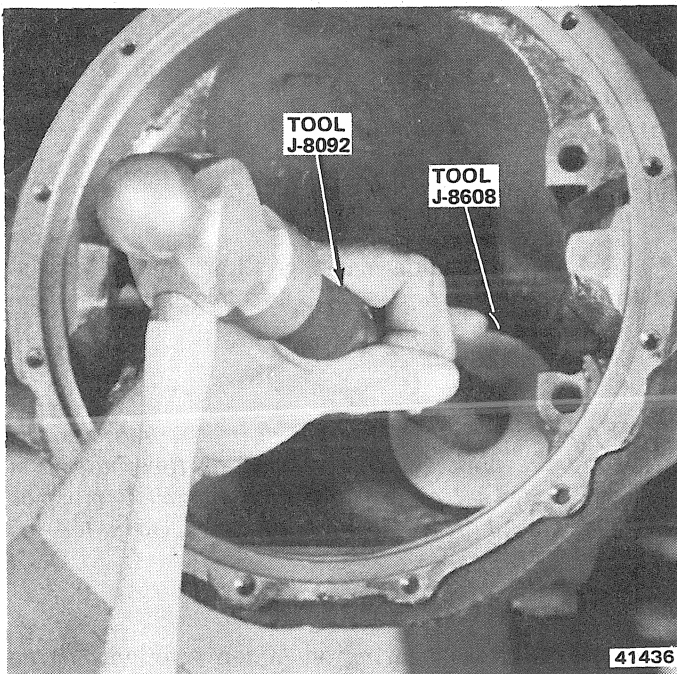

Fig. 2F-37 Pinion Rear Bearing Cup Installation
(7) Install rear bearing cup using Tools J-8092 and J-8608 (fig. 2F-37).
(11) Note pinion depth variance marked on pinion gear. If number is preceded by a plus (+) sign, add that amount (in thousands) to standard setting for axle model being overhauled. If number is preceded by a minus (-) sign, subtract that amount (in thousandths) from standard setting. Result of this addition or subtraction is **desired pinion depth**. Record this figure for future reference.
(12) Assemble Arbor Tool J-5223-4 and Discs J-5223-23 and install assembled tools in differential bearing cup bores (fig. 2F-38). Be sure discs are completely seated in bearing cup bores.
(13) Install bearing caps over discs and install bearing cap bolts (fig. 2F-38). Tighten bearing cap bolts securely, but not to specified torque.
(14) Position Gauge Block J-5223-20 on end face of pinion gear with anvil end of gauge block seated on gear and gauge plunger underneath Arbor Tool J-5223-4 (fig. 2F-38).
(15) Assemble and mount Clamp J-5223-14 and Bolt J-5223-24 on axle housing (fig. 2F-38). Use axle housing cover bolt to attach clamp to housing.
(16) Extend clamp bolt until it presses against gauge block with enough force to prevent gauge block from moving.
(17) Loosen gauge block thumbscrew to release gauge block plunger. When plunger contacts arbor tool, tighten thumbscrew to lock plunger in position. Do not disturb plunger position.
(18) Remove clamp and bolt assembly from axle housing.
(19) Remove gauge block and measure distance from end of anvil to end of plunger using a 2 to 3 inch (5 to 8 cm) micrometer (fig. 2F-39). This dimension represents the **measured pinion depth**. Record this dimension for assembly reference.
(20) Remove bearing caps and remove arbor tool and discs from axle housing.
(21) Remove pinion gear, rear bearing cup, and pinion depth shim from axle housing.
(22) Measure thickness of depth shim used in step (10). Add this dimension to measured pinion depth obtained in step (8). From this total, subtract desired pinion depth. Result represents correct shim thickness required.